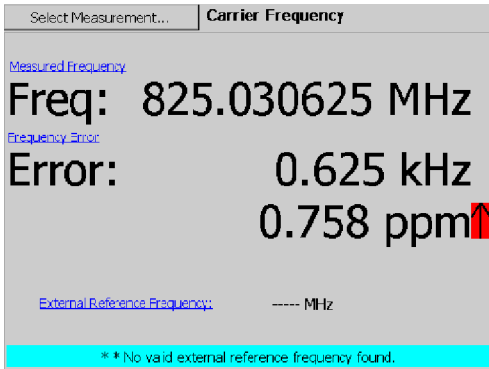

Figure 3-45: A Carrier Frequency display
4. Tap **Carrier Frequency**. See Figure 3-45.